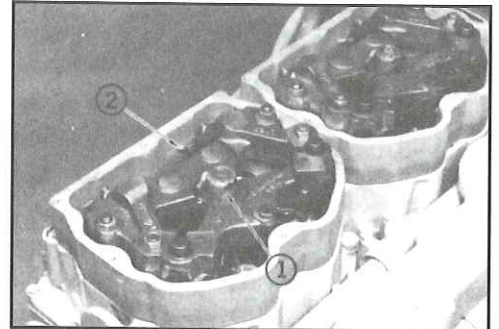

Fig. 24
Connect the solenoid lead wires (1) to the terminal lead outs (2) in the three spacers. See Fig. 24.